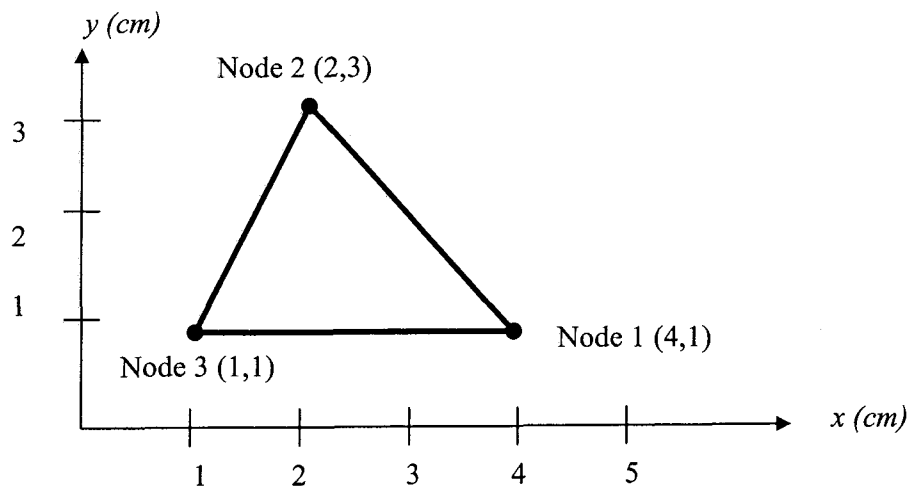

Figure 7
- (b) Show clearly in a step by step manner the development process of a stiffness matrix, $[K]^e$, for a triangular element in a state of plane stress as shown in Figure 7. Assume $E = 200 \text{ GN/m}^2$, $\nu = 0.3$ and $t = 1 \text{ cm}$. Details of $[K]^e$, is not required.